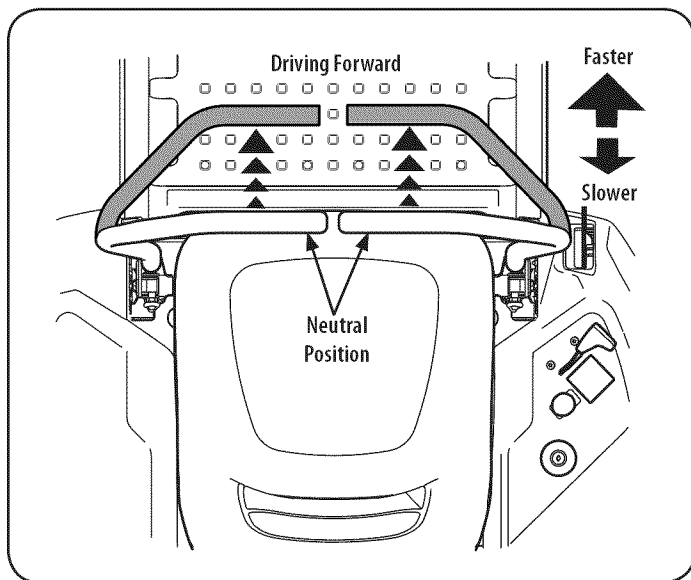

Figure 13
1. Slowly and evenly move both drive control levers forward. The riding mower will start to move forward. See Figure 13.